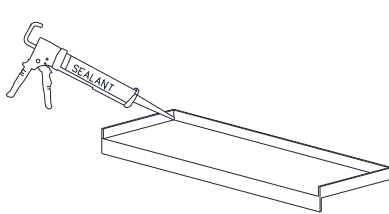

Figure 2:
- Apply sealant in all corners and seams of the sillpan (Figure 2).